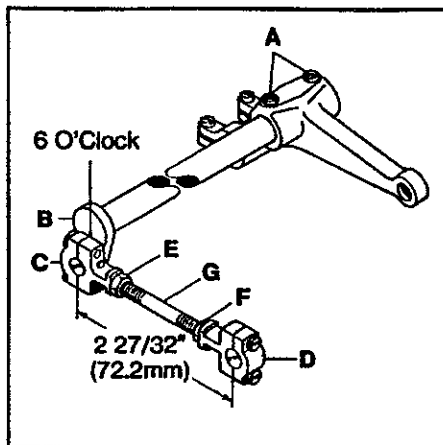

FIG. 27
Subtract dimension "A" from dimension "B" and divide by two. Add this number to dimension "A" to obtain "C". Set a caliper to the "C" dimension and turn the handwheel in operating direction until the height of the needle bar is at the "C" dimension. At this time the knife drive lever should be in the 6 o'clock position. If adjustment is necessary, loosen screws (A, Fig. 27) in the needle lever and reposition knife drive lever (B) to the 6 o'clock position. Tighten screws (A). The dimension between the centerline of right and left knife drive connection ball joints (C and D) must be $2 \frac{27}{32}$ " (72.2mm). Loosen left